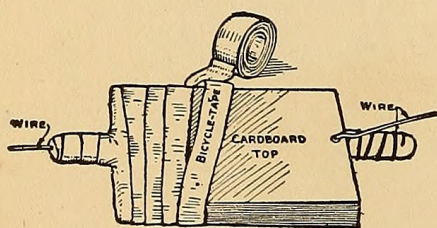
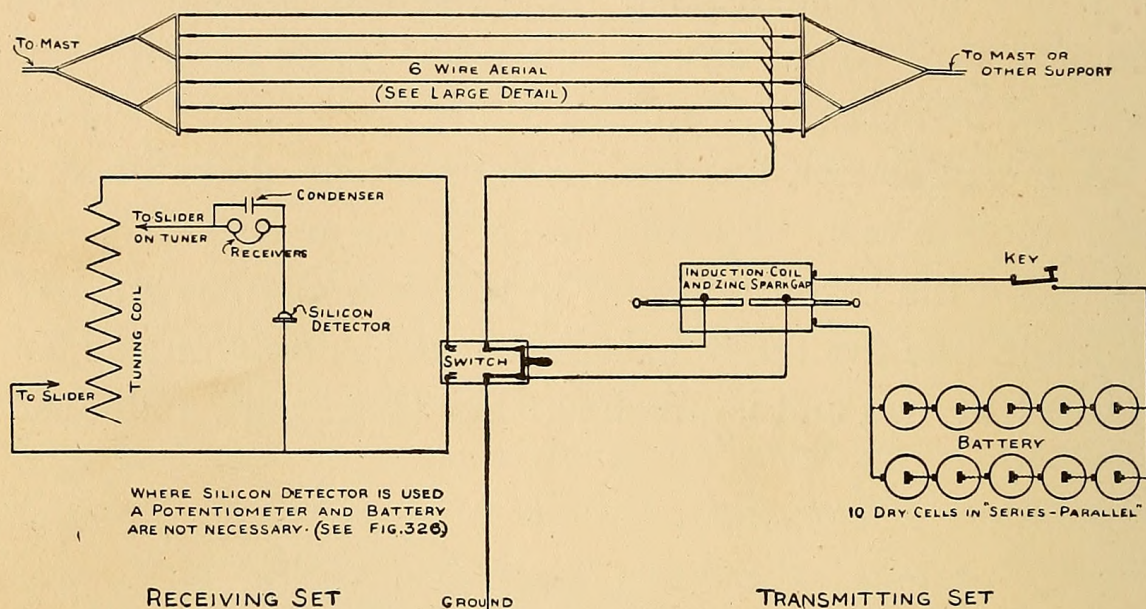
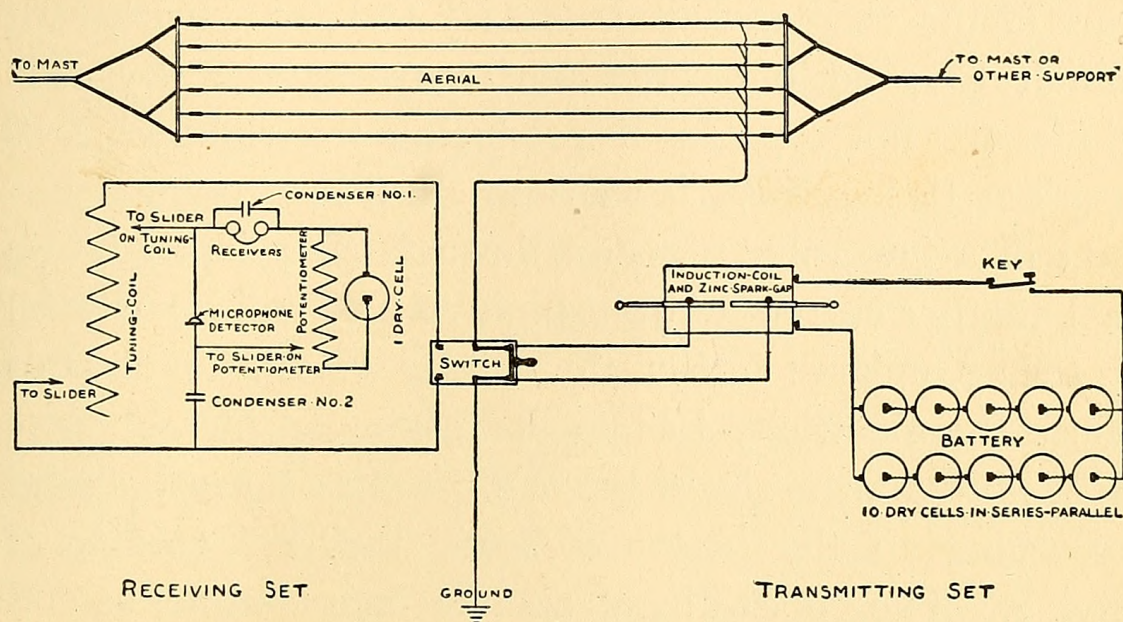
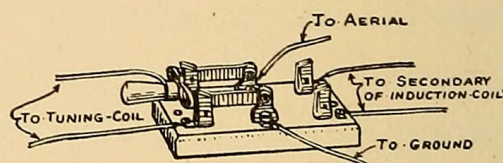

FIG. 323. — The Fixed Condenser is completed by covering it as above with Bicycle Tape. (See Figs. 325 and 326.)
FIG. 325. — Complete Wiring Plan — when a Silicon Detector is used.
FIG. 326. — Complete Wiring Plan — when a Microphone Detector is used.
FIG. 331. — A Double-throw, Double-pole Knife Switch.
A wire should extend from the switch of the instruments to the *ground* wire (Fig. 325).
Instead of removing the aërial wire from the instruments after use, and connecting it to the *ground* wire, a handier scheme is to get a *double-throw, single-pole knife switch* and connect it between the aërial and the *double-throw, double-pole knife switch* shown in Figs. 325 and 331. This switch has three connections instead of the six on the *double-throw, double-pole switch*, and the aërial is connected at the center, the ground at one end, and the wire from the aërial connection on the switch shown in Fig. 325 to the other end.
(See Fig. 326.)
phone detector is used, a second condenser must be wired up in connection with it as shown in the wiring diagram (Fig. 326).
around them as shown on the right end in Fig. 323. By running the wires through the cardboard as directed, whatever strain is brought to bear upon the terminal wires will come upon the cardboard and not the delicate tin-foil. With the terminal wires
in place wrap the entire condenser with tire tape, beginning at one end as shown in Fig. 323, and lapping each turn partly over the previous turn. One of these condensers should be connected directly across the telephone receivers as shown in Figs. 325 and 326, and when a
microphone detector is used, a second condenser should be set in between the detector and the switch (Fig. 326).
This completes the receiving instruments. They should be arranged upon a board or table in some such manner as shown in Fig. 300 and wired up as shown in Fig. 325 or Fig. 326, according to which form of detector is used. With either receiving set you should be able to hear commercial companies for a distance of a hundred miles, with the proper aerial, and all amateur stations in your vicinity. The arrangement of the instruments is discussed upon page 248.
**Dry Batteries**, or *dry cells*, can also be obtained from a garage, where they are discarded when too weak to spark an automobile; these are still plenty good enough for the "wireless" coil. The 1-inch coil will require five dry cells, but if another five can be obtained, they should also be used. Instead of connecting all ten in *series*, that is, connecting the carbon of each to the zinc of the one next to it (Fig. 333), connect each five in series and then connect the end cells in *parallel*, or *multiple*; that is, connect the carbons of one pair of end cells and the zincs of the other pair of end cells (Figs. 325 and 333). This form of connection is known as *series-parallel*. When all the zincs are joined together, also all the carbons, the connection is called *parallel*, or *multiple* (Fig. 333). If five cells are used in a series and you wish to add more cells, you must add another complete set of five, as *there must be the same number of cells in each series*.
**The Knife Switch** shown in Fig. 331, known as a *double-throw, double-pole knife switch*. This will cost between 30 and 50 cents, according to where purchased. The connections are marked upon the illustration of the switch and are also shown upon the wiring diagrams (Figs. 325 and 326).